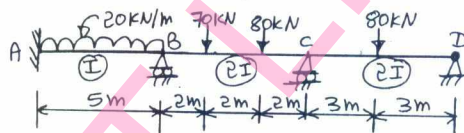

Fig.Q3
- 3 Analyze the continuous beam as shown in Fig.Q3 by moment distribution method and also determine its bending moment diagram and shear force diagram.